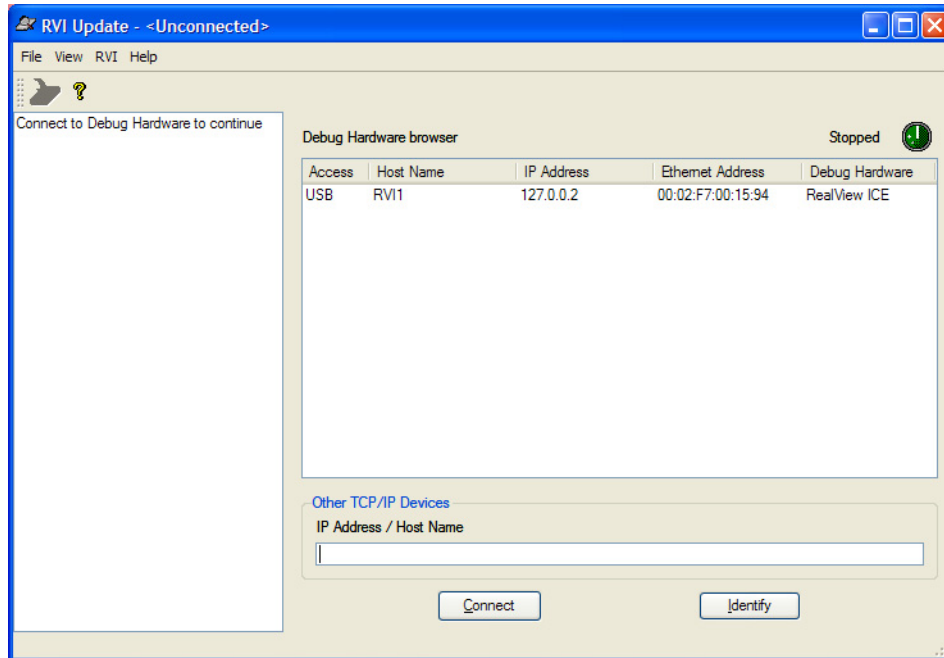

Figure 7-1. Connecting to ICE
5. Select your ICE from the list and press `Connect` (see Figure 7-1).